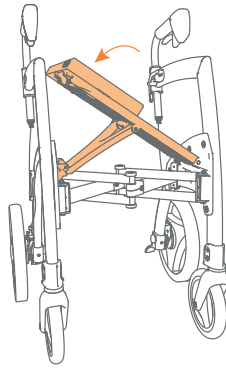

Figure 8: Push the seat down till you hear a click.
- b. Push the seat down until it clicks into place. Important: the seat is not secured until you have clearly heard it 'click' (**Figure 8**).